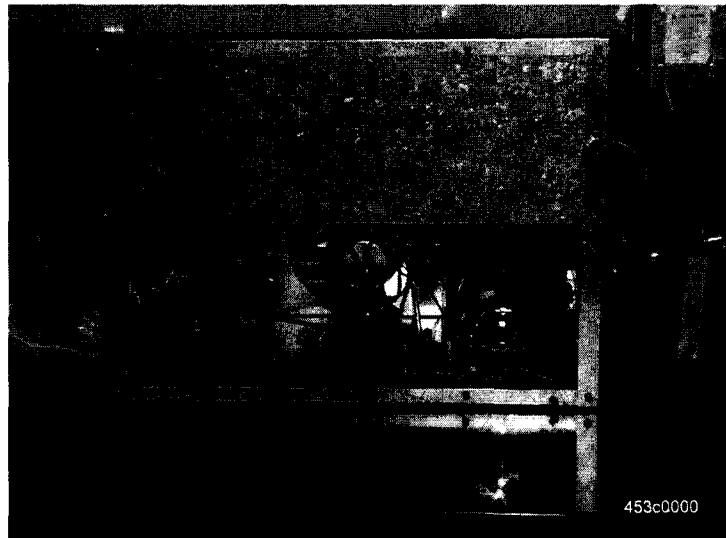

Figure 1
2. Remove the front panel of the refrigeration module and set aside (see figure 1).